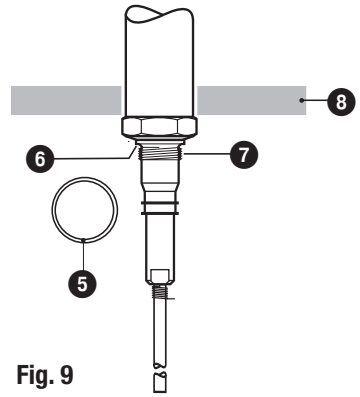

Fig. 9
7. Place joint ring ⑤ onto seating surface ⑥ of the electrode. **Fig. 9**
8. Apply a light smear of silicone grease (e. g. WINIX® 2150) to electrode thread ⑦.